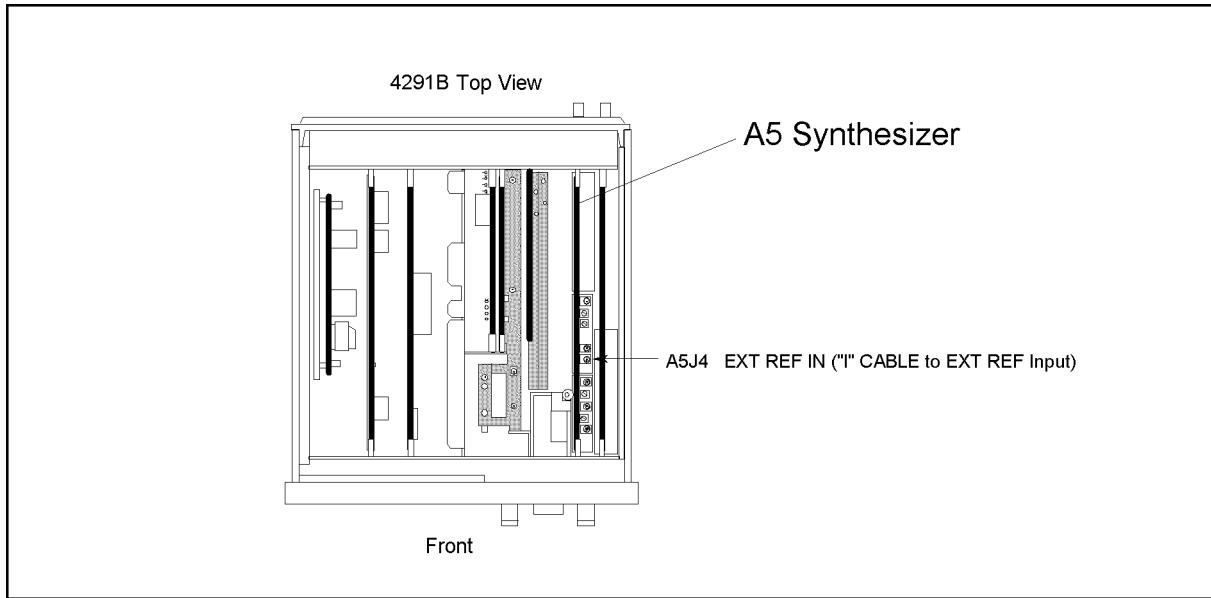

Figure 7-12. A5J4 Location
- If the “ExtRef” message does not appear, inspect the cable and connections between the EXT REF input connector and A5J4. See Figure 7-12 for the A5J4 location. If the cable and connections are good, the most probable faulty assembly is A5. Replace A5.